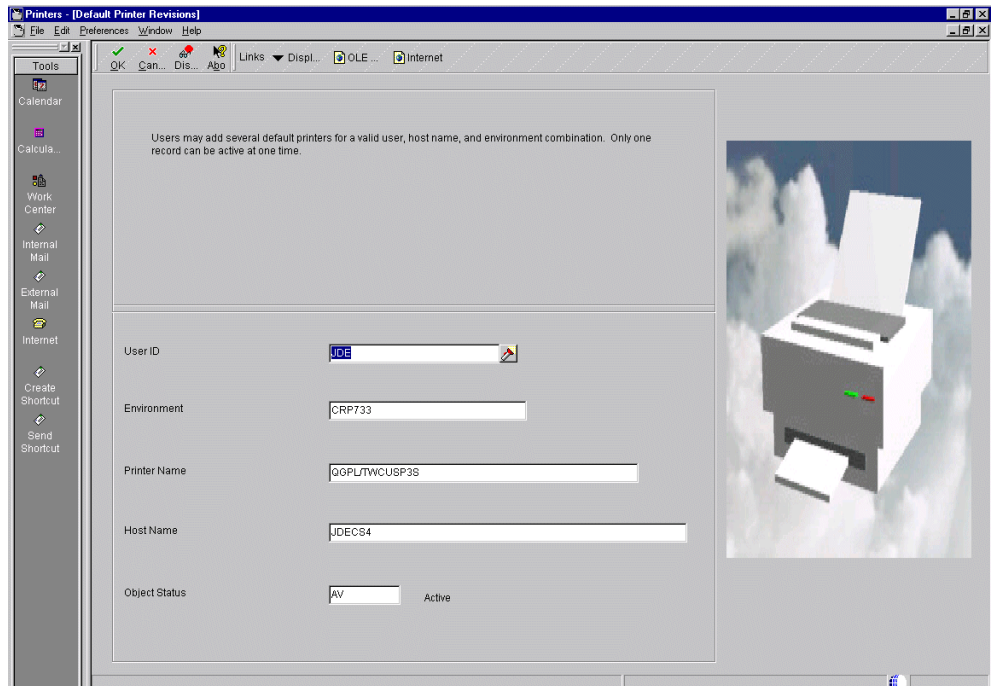

Figure 193. Default Printer
10. Click the **Add** button on the tool bar (Figure 193).